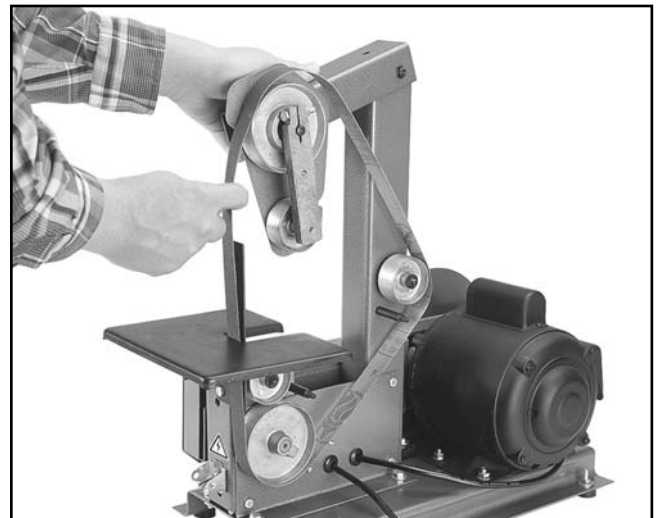

Figure 17. Sanding belt removal.
2. Press down on the top arm to release the belt tension and remove the old belt. **See Figure 17.**